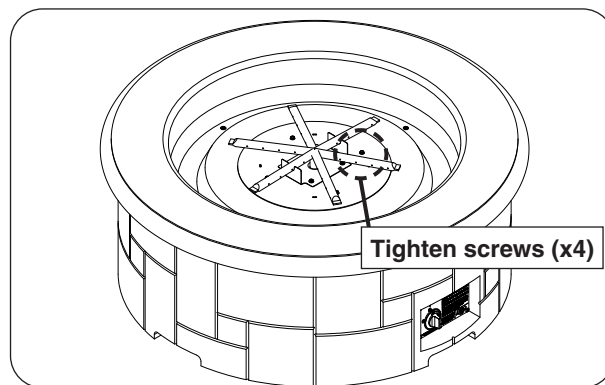

Fig. 37-3 Install burner
2. Use a $\frac{5}{16}$ " nut driver to fasten the burner to the base (see Fig. 37-3).